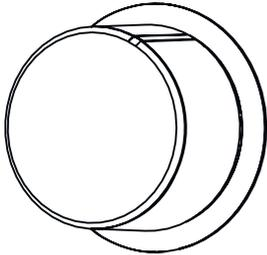

Fig. 17: Pop out on
- Press inward to pop out the button and then adjust (Fig. 17).